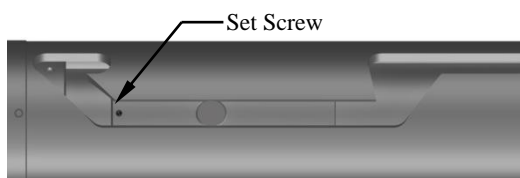

Fig. 6
L-2.16) Screw set screws (28) into J-pin bottom sub (23). Move J-body assembly as needed to access threaded holes (Fig. 6).